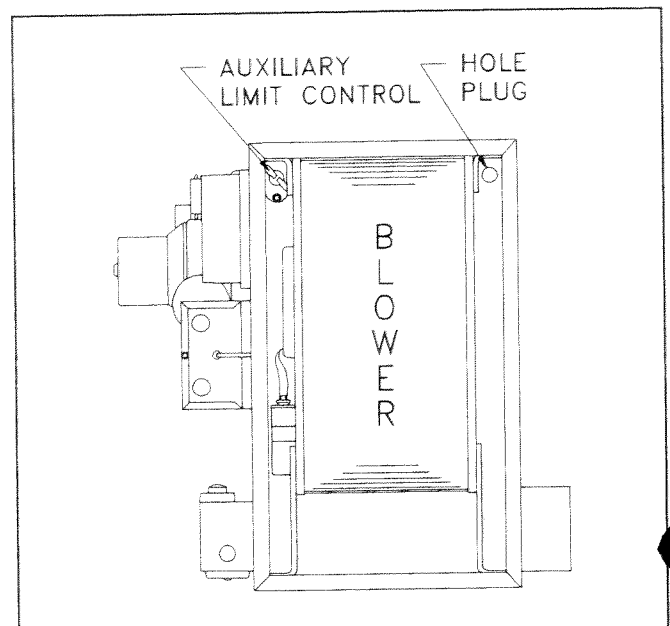

Figure 18. Auxiliary Limit Control.
3. Remove wire tie on blower motor wires in blower compartment. Find auxiliary limit control on upper portion of blower panel. Disconnect its blue wires. Route blue wire from burner limit switch over blower housing. Remove auxiliary limit control and hole plug on upper housing corners of blower panel and exchange locations. See Figure 18.